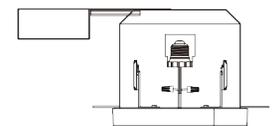

Fig. 16
5. Once assembly is complete, turn on power to confirm fixture is working properly. (Fig. 16)